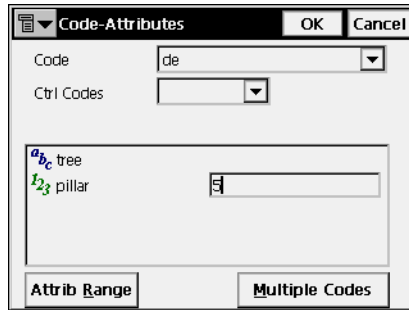

Figure 3-14. Code-Attributes
-  : the *Attributes List* bitmap, opens the *Code-Attributes* screen to set values for attributes available for the code chosen (Figure 3-14 on page 3-10).